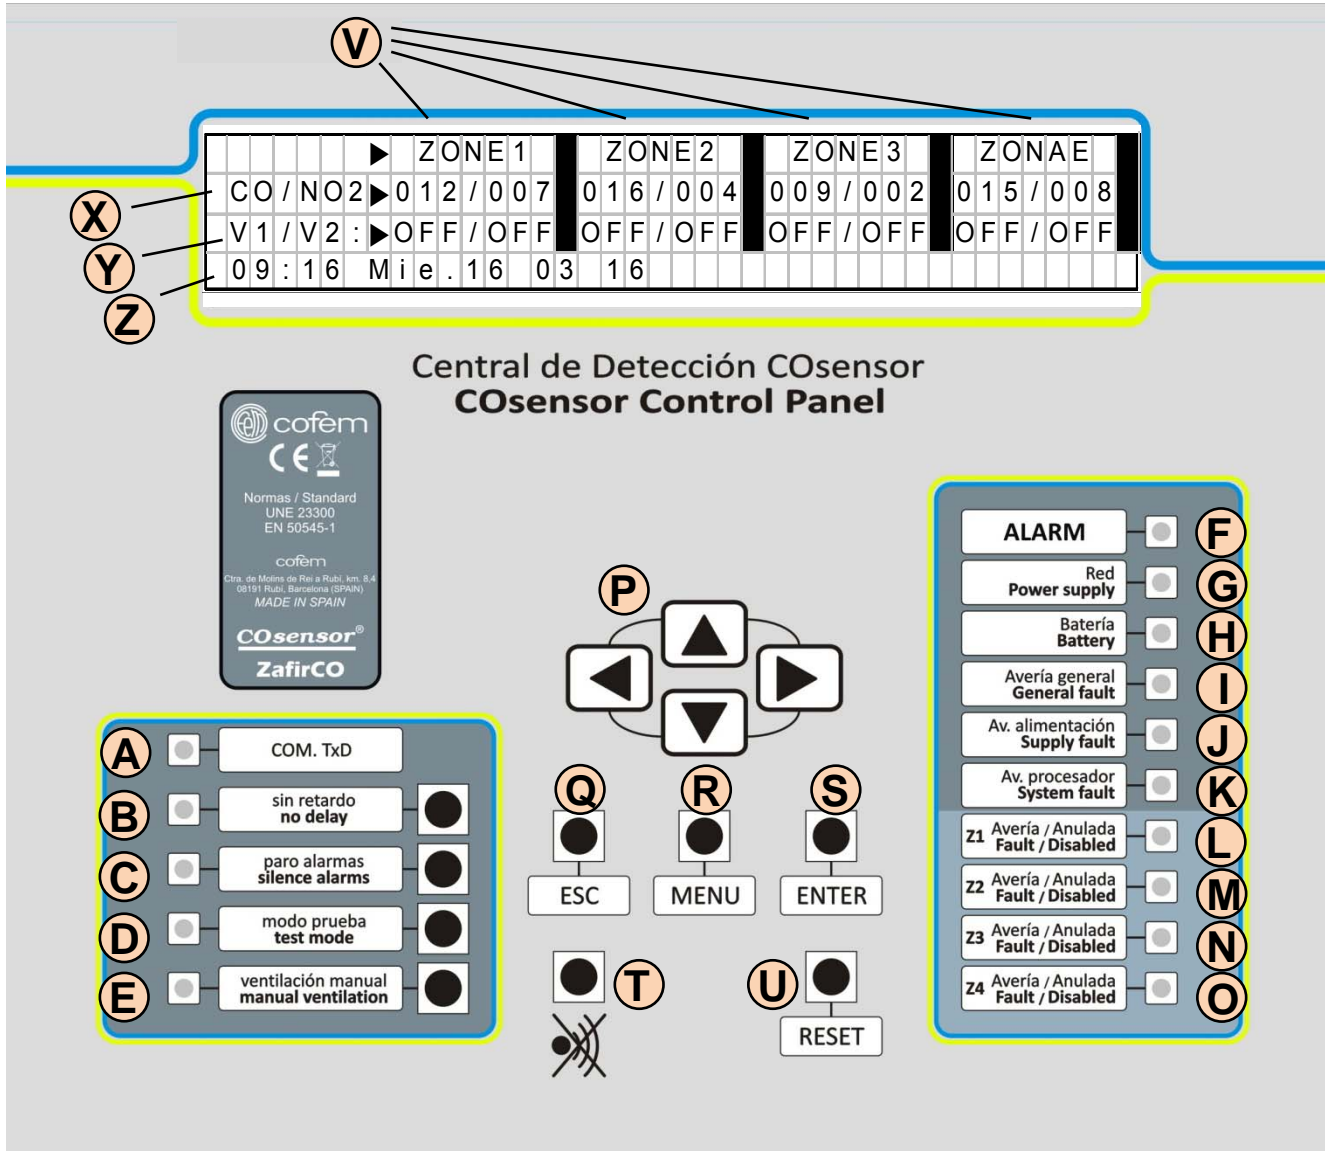

Figure 10: Control panel view
9. The control unit must be in working condition with the power supply led on (letter G in Figure 10).
If an alarm occurs, the control panel lights red alarm Led (F in Figure 10) and the buzzer sounds.
In case of failure of power, amber led GENERAL FAULT and SUPPLY FAULT (I and J in Figure 10) will light, sound the buzzer and show the following message.
If control panel is DVB, disconnect the main power supply. The control panel must activate the buzzer, turn off the led "Red" (letter G in Figure 10), and turn on the led "Batteries" (letter H of Figure 10).
After verifying that the system is stable and remains working normally, reconnect the main power supply. The battery led (letter H of Figure 10) must be switch off and the led (Led G of Figure 10) on.
Put zones in test mode by pressing the "test mode" (letter D of Figure 10) in control panel. In this mode, the sensor led behavior is modified and all relays of all zones are disabled. Face each sensor to test gas (at least 100 ppm of CO or 2 ppm of NO2). The sensor will perform double flash, indicating that it has detected the rising concentration of toxic gas. The control panel allows also to test by zone through the menu 5 (Chapter 10), option 4, or disable it with option 5.